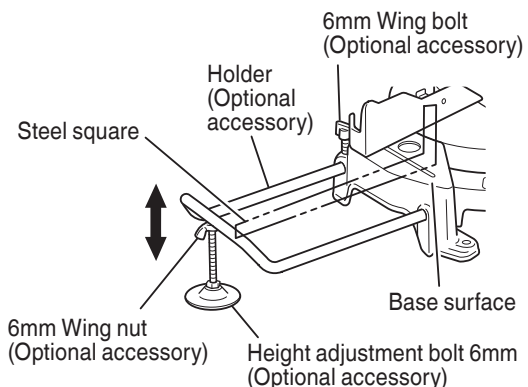

Fig.11
- (1) As indicated in Fig. 11, use a steel square for aligning the upper edge of the holders with the base surface. Loosen the 6mm wing nut. Turn a height adjustment bolt 6mm, and adjust the height of the holder.
- (2) After adjustment, firmly tighten the wing nut and fasten the holder with the 6mm wing bolt (optional accessory). If the length of Height Adjustment Bolt 6mm is insufficient, spread a thin plate beneath. Make sure the end of Height Adjustment Bolt 6mm does not protrude from the holder.